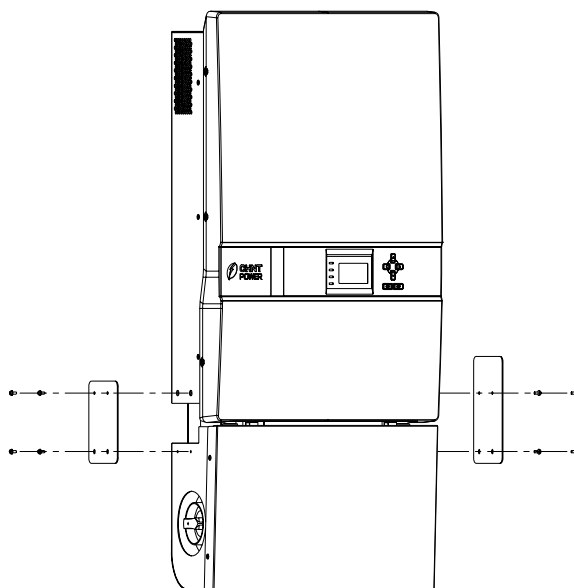

Figure 3-8 Securing panels on both sides
- (f) Put the two removed panels back and secure them with 4 M4\*12 bolts on each side, as shown in Figure 3-8.